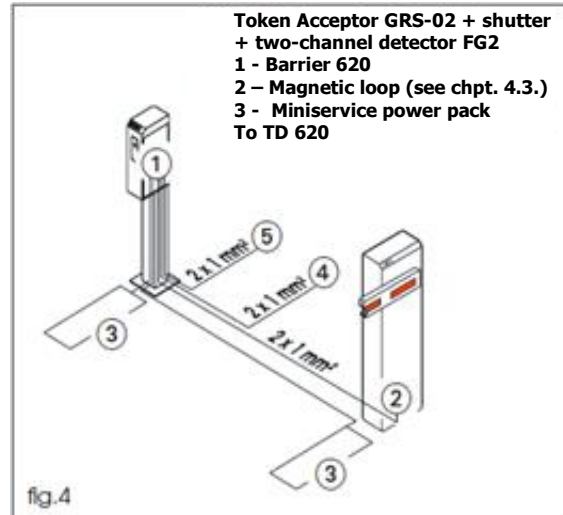

fig.4
- perform the electric preparations as shown in fig.4